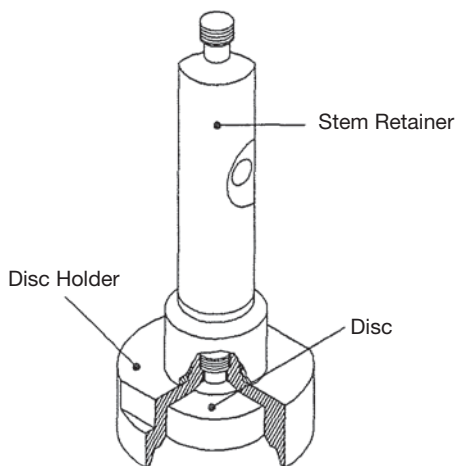

Figure 9.4
10. Thread the **Disc** [4] into the **Disc Holder** [6]. Be sure the **Disc** [4] is free-floating. (**Figure 9.4**)